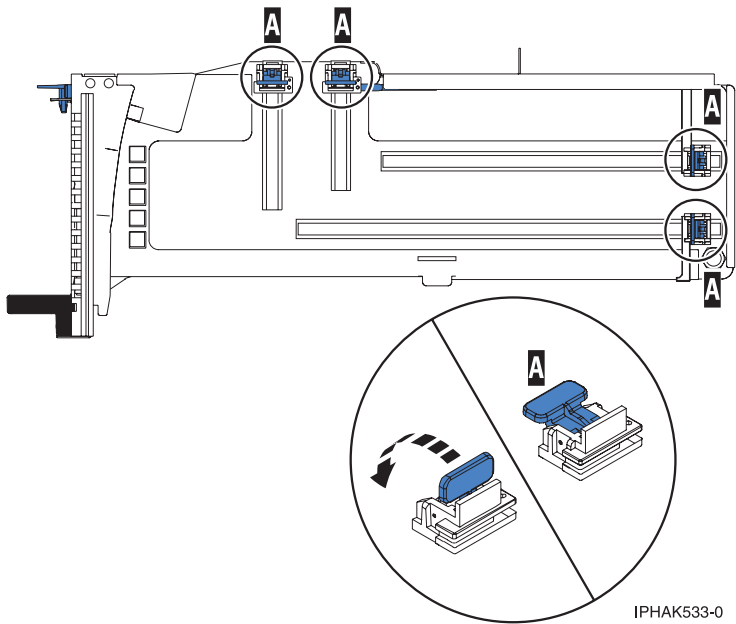

Figure 20. Adapter retainers
- b. Ensure that all of the adapter retainers (A) have been pushed out to the edges of the cassette to allow the placement of the adapter. See Figure 20 on page 38.